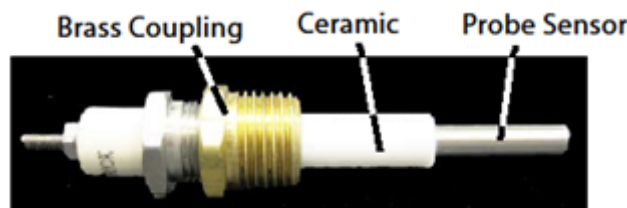

Figure 12. LWCO Capacitor
2. Remove the LWCO probe from the recess by unscrewing the brass coupling to which it is attached. The probe should resemble the one in Figure 12.